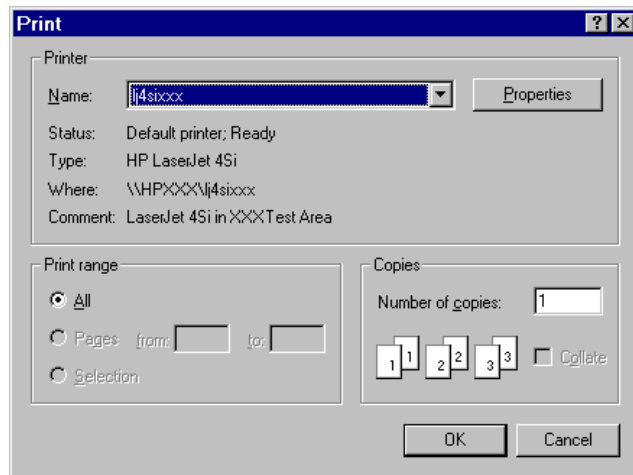

Figure 30 Printing the Screen
- 9 Continuing with the same example, to print the screen, select **File** \Rightarrow **Print Screen**. On Windows, the dialog box in Figure 30 appears.